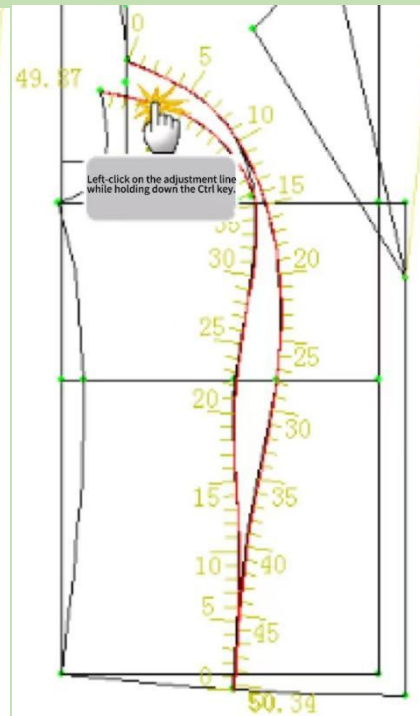

Figure4-59
2. Hold down the Ctrl key and click on the adjustment line . ( Figure4-59 )